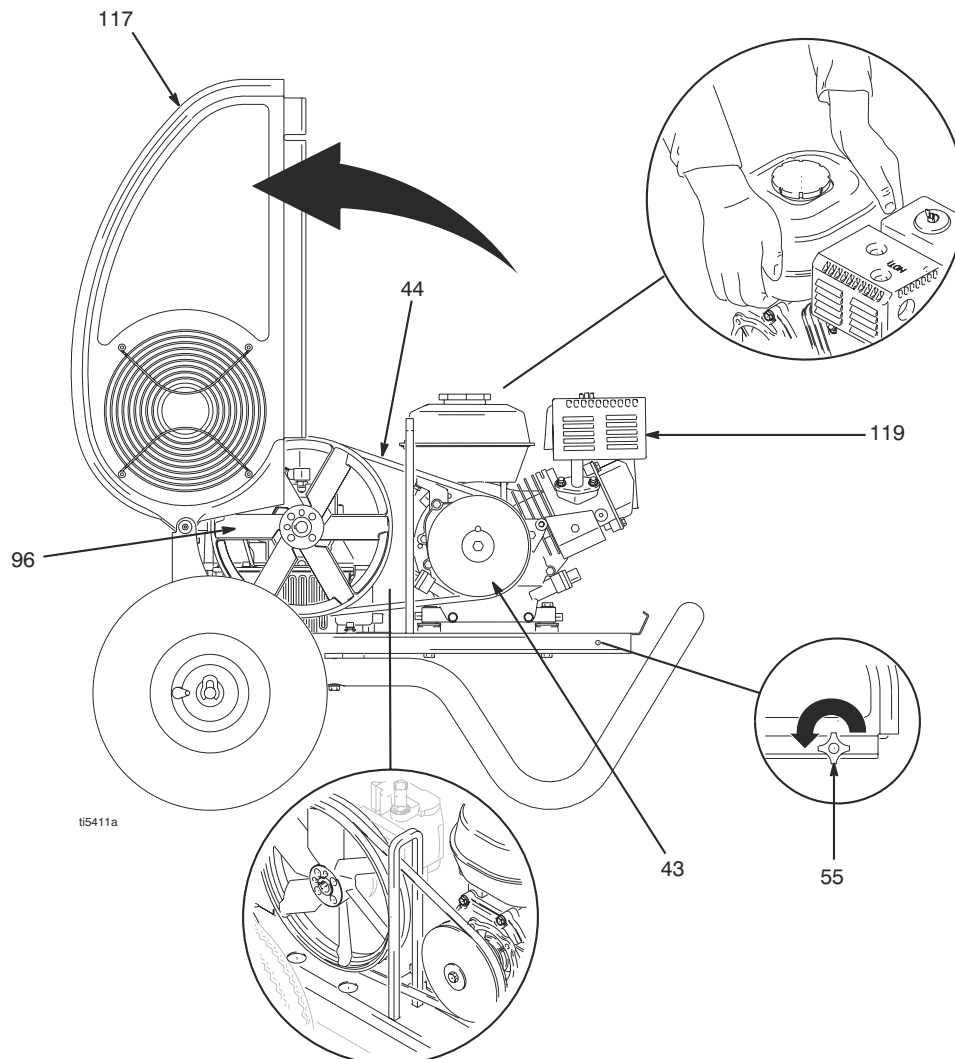

FIG. 3
1. Fig. 3. Loosen belt guard knob (55).
2. Rotate belt guard (117) up.
3. Lift engine (119) up to remove tension on belt (44).
4. Remove belt from pulley (43) and fan pulley (96).